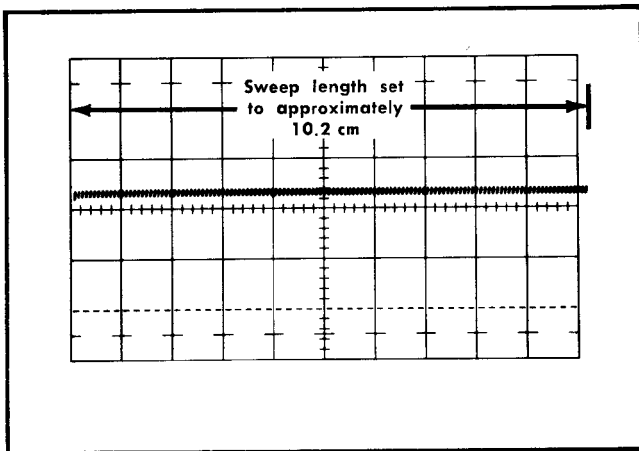

Fig. 5-8. Typical crt display after adjusting indicator oscilloscope Horiz Input Variable control.
- f. Adjust the indicator oscilloscope Ext Horiz Input Variable control and Horizontal Position control to obtain approximately 10.2 cm of horizontal deflection (see Fig. 5-8). Use the Horizontal Display switch position (Ext X1 or Ext X10) that will permit this adjustment.